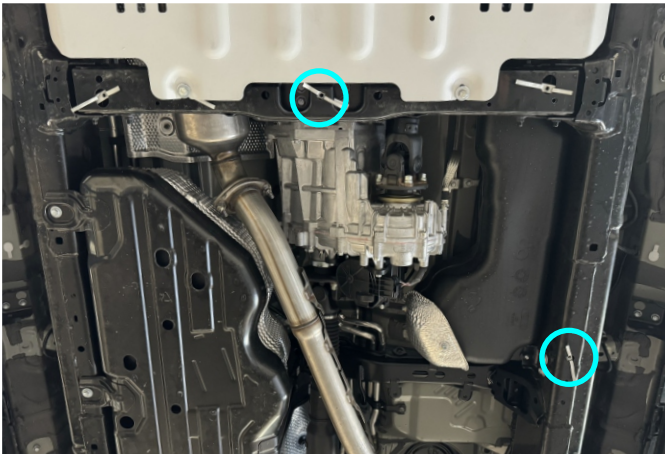

Fig. 3
3. Install insert nuts M8x65 (item D) as shown in fig. 3.